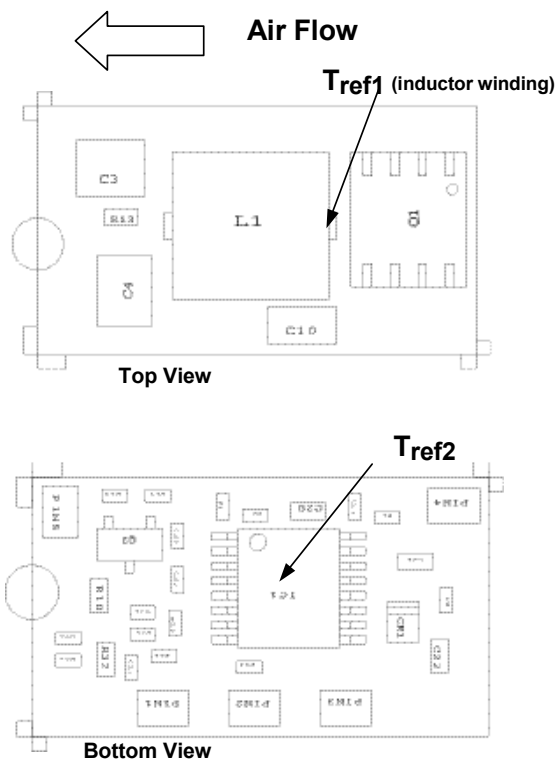
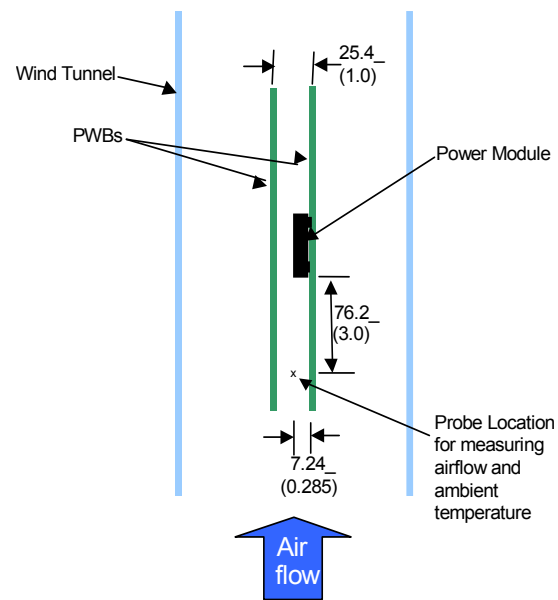

Figure 32. Tref Temperature measurement location.
Figure 33. Thermal Test Set-up.
To provide over temperature protection in a fault condition, the unit relies upon the thermal protection feature of the controller IC. The unit will shutdown if the thermal reference point T_{ref2} , (see Figure 33) exceeds 140°C (typical), but the thermal shutdown is not intended as a guarantee that the unit will survive temperatures beyond its rating. The module will automatically restarts after it cools down.
Considerations include ambient temperature, airflow, module power dissipation, and the need for increased reliability. A reduction in the operating temperature of the module will result in an increase in reliability. The thermal data presented here is based on physical measurements taken in a wind tunnel. The test set-up is shown in Figure 33. Note that the airflow is parallel to the long axis of the module as shown in figure 32. The derating data applies to airflow in either direction of the module's long axis.
The thermal reference point, T_{ref1} used in the specifications of thermal derating curves is shown in Figure 32. For reliable operation this temperature should not exceed 125°C.